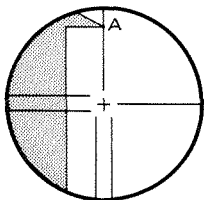

Fig. 13.17
- 1) Select and sight a clear target on the upper part A of the vertical reticle line Fig. 13.17.